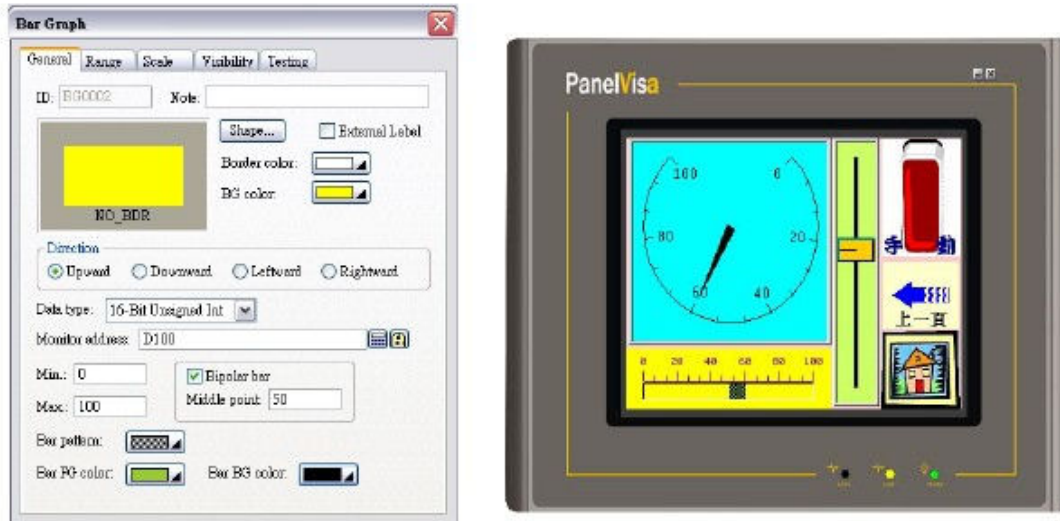

Figure 2-35 Object properties dialogue \_Bipolar Graph
Bipolar bar graph : The HMI compares the value read from specified registers of PLC with Middle point and transforms the difference to bipolar graph on the screen. See the settings in figure 2-35. When the value of PLC is “d100=60”, displays PLC value (60)-Middle point(50)=10, See figure 2-35. When the PLC value (d100=80), displays PLC(80)-Middle point(50)=30>High Limit(25), then changes to a specified color.